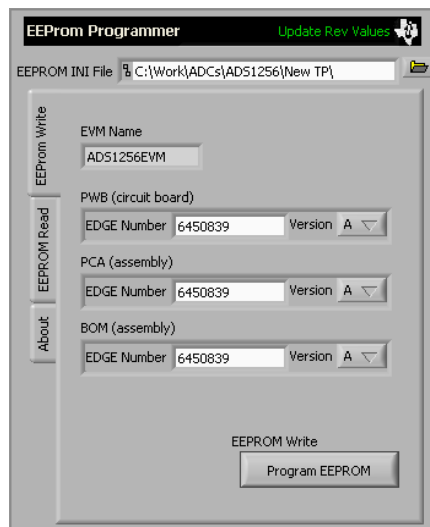

Figure 5
8. Program the EEPROM by pressing the "Program EEPROM" button. See Figure 5